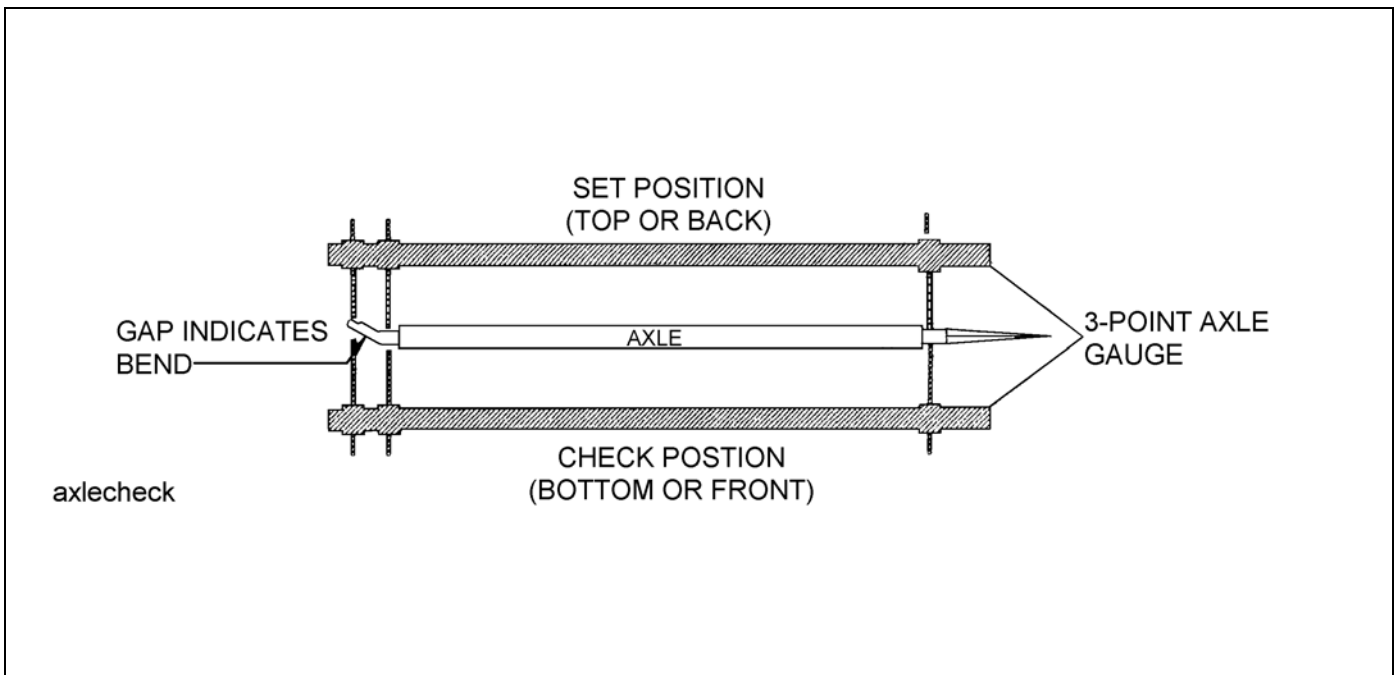

Figure 4-6: Checking Axle for Bend
2. Place a 3-point axle gauge against the front side of the axle, and adjust each axle gauge point to the axle. (Double point end against the inner and outer wheel bearing surfaces of the spindle being checked and the other point on the inner bearing surface on the other spindle.)**(See Figure 4-6.)**
3. Move the axle gauge and place against the back side of the axle. If either of the points of double point end fails to touch the axle surface, a bent spindle is evident. A point gap of .015" or more is considered excessive tire "toe" and the axle must be replaced **(See Figure 4-6.)**